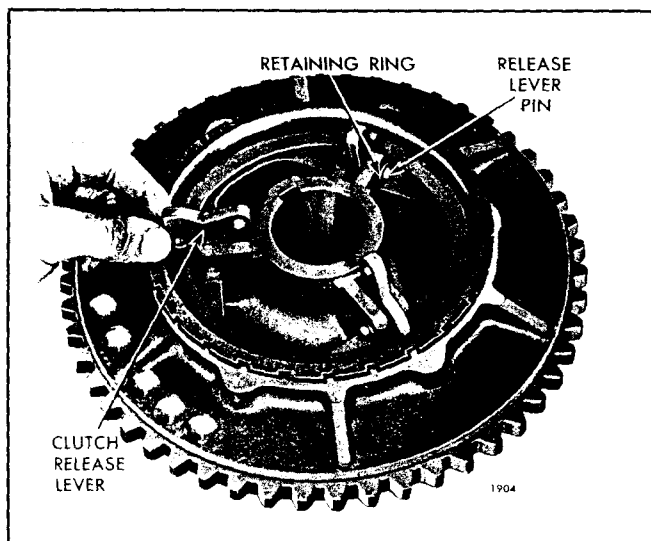

Fig. 14 - Installing Clutch Release Lever
9. Install the clutch release levers as shown in Fig. 14.